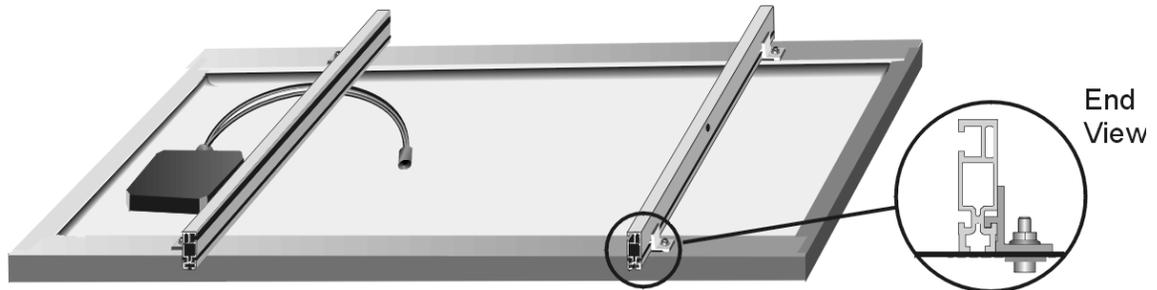
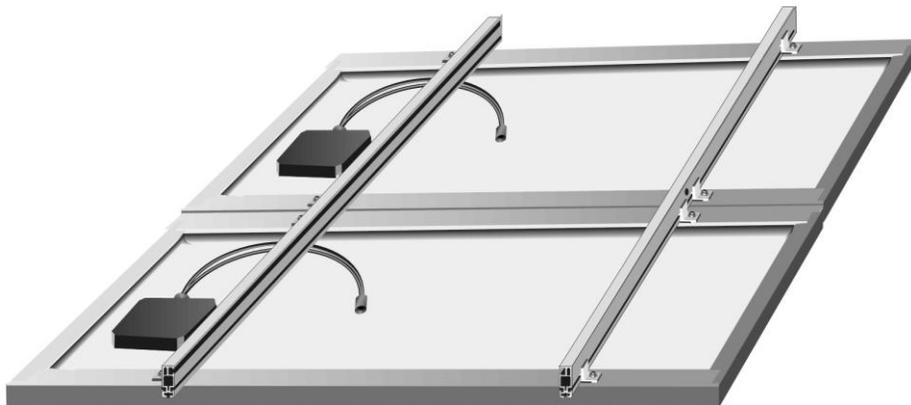

Figure 8 Attaching the Mounting Rails for a Single PV Panel (SAL-1 through SAL-4 Models)
Figure 9 Attaching the Mounting Rails for Two PV Panels (SAL-5 and SAL-6 Models)
1. Slide two clips (for SAL-1 through SAL-4 models) or four clips (for SAL-5 and SAL-6 models) into each mounting rail. Be sure that the clips are inserted into the side of the rail that contains a single slot, as shown in Figure 8.
2. Secure each clip to the PV panel using a 1/4" PV panel bolt, flat washer, and flange nut as shown in Figure 8 (for SAL-1 through SAL-4 models) or Figure 9 (for SAL-5 and SAL-6 models).